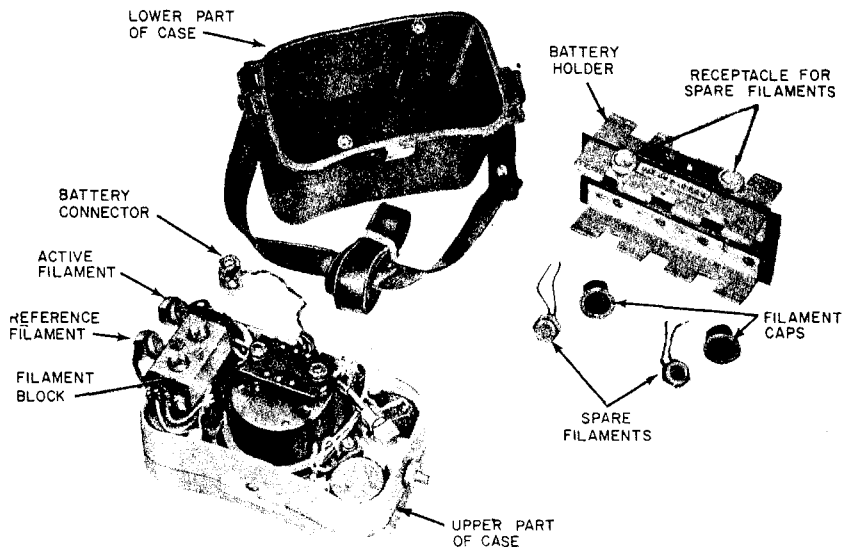

Fig. 5—F Gas Indicator (Inside View Showing Spare Filaments, Active and Reference Filaments, Case Parts, and Battery Holder)
5.03 The flashlight dry batteries are contained in the battery holder shown in Fig. 5. To remove them, first unsnap the battery connector
5.04 The filament block is located as shown in Fig. 5. A filament needs replacement if, with the ON-OFF switch in ON position, the needle of the meter cannot be adjusted to zero. If the needle remains at the right-hand end of the scale, the detector filament is defective; if the needle